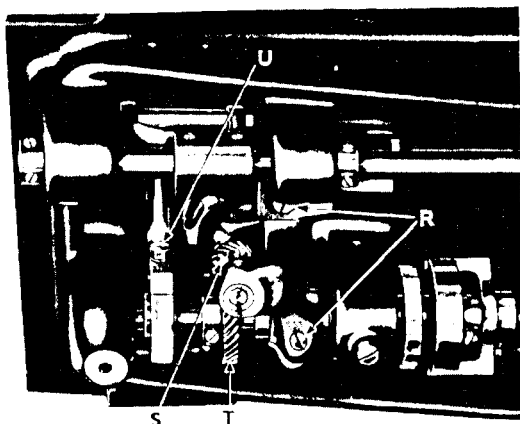

Fig. 20. Adjustment of Hook Saddle
Turn the machine pulley over toward you until the point of the sewing hook is at the center of the needle. Loosen the two screws (R, Fig. 20) holding the hook saddle underneath the bed of the machine and move the hook saddle to the right or left, as may be required, until the point of the hook is as close to the needle as possible without striking it, then securely tighten the two screws (R).
Loosen the two screws in the hub of the hook driving gear (T, Fig. 20) and tap this gear to the right or left on the hook driving shaft until the point of the hook is at the center of the needle. Tapping to the right gives an earlier hook timing, and to the left a later hook timing. Securely tighten the two set screws in the gear (T).